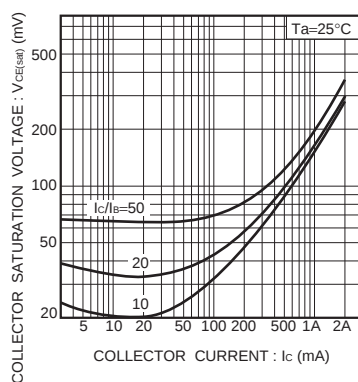

Fig.5 Collector-Emitter Saturation Voltage vs. Collector Current (I)
Collector Current (II)Fig.5 Collector-Emitter Saturation